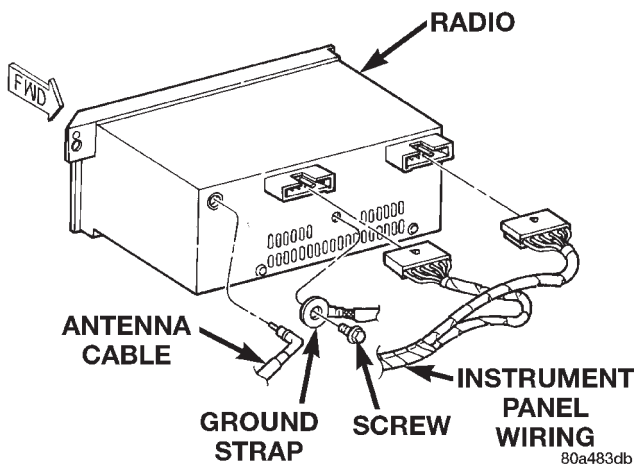

Fig. 4 Radio Connections - Typical
(10) Pull the radio out from the instrument panel far enough to access the wire harness connectors and the antenna coaxial cable connector (Fig. 4).